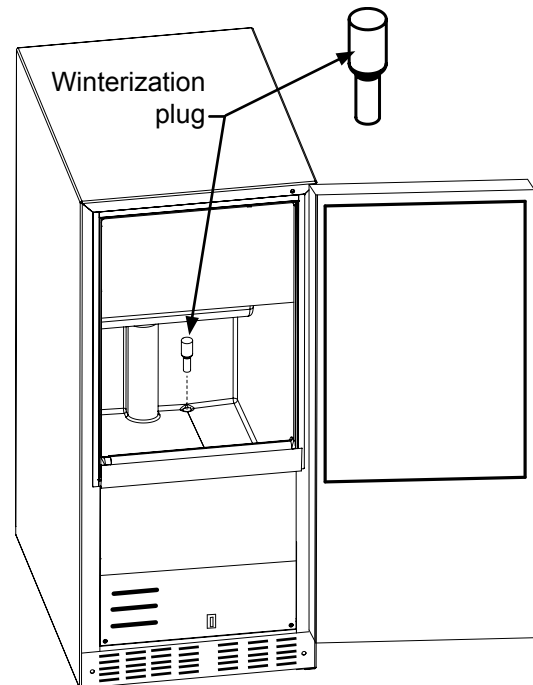

Figure 34
13. Install the winterization plug in the water drain hole inside the ice bin. (See Figure 34).